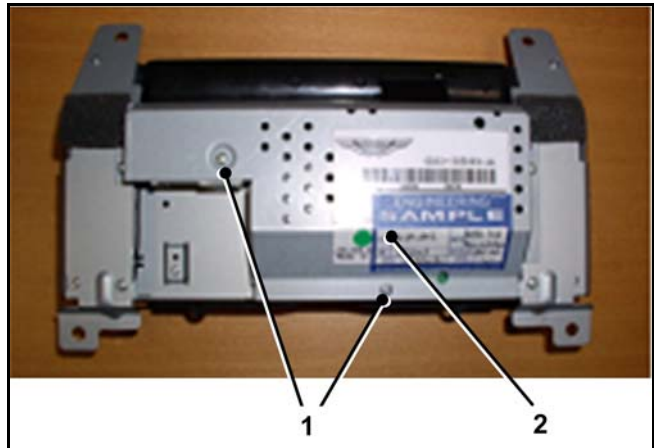

Figure 5
5. Remove the two M3 screws (1) to loosen the bottom cover (2) (see Figure 5).